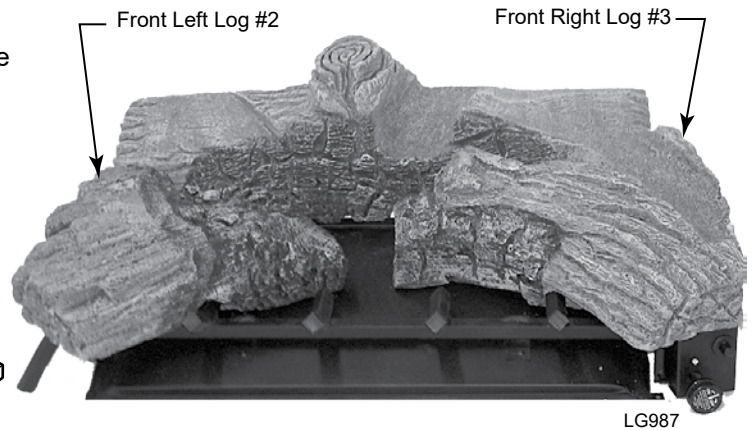

**Figure 24**
1. Align pins on bottom of rear log #1 with pins on grate bar and place on grate. *Figures 24 and 25*